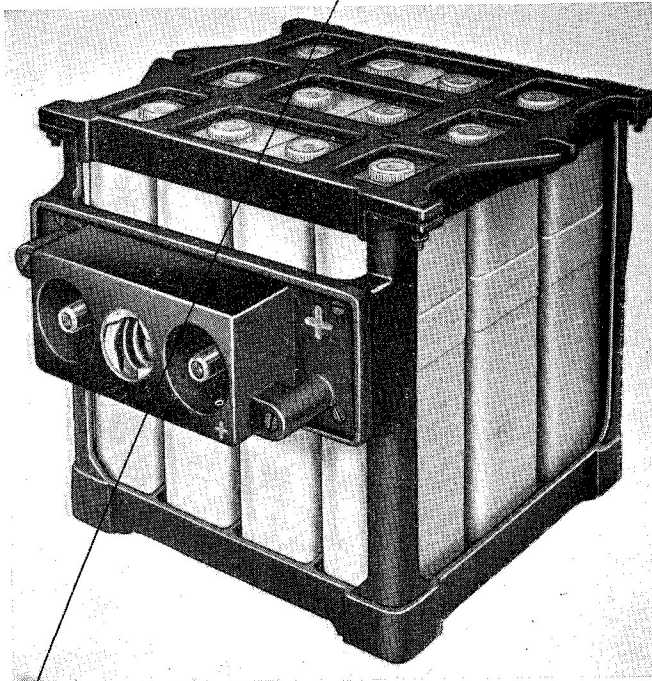

Fig. 1. Battery, Type H, 24-volt, 5.5 amp. hr.
Battery, Type H, 24-volt, 5.5 amp. hr. Fig. 1
2. The battery (fig. 1) consists of twelve 2-volt cells arranged in four banks, and assembled in a metal crate. The cell containers are made of acid-resisting polystyrene resin, and the cells are fitted with microporous plastic separators.